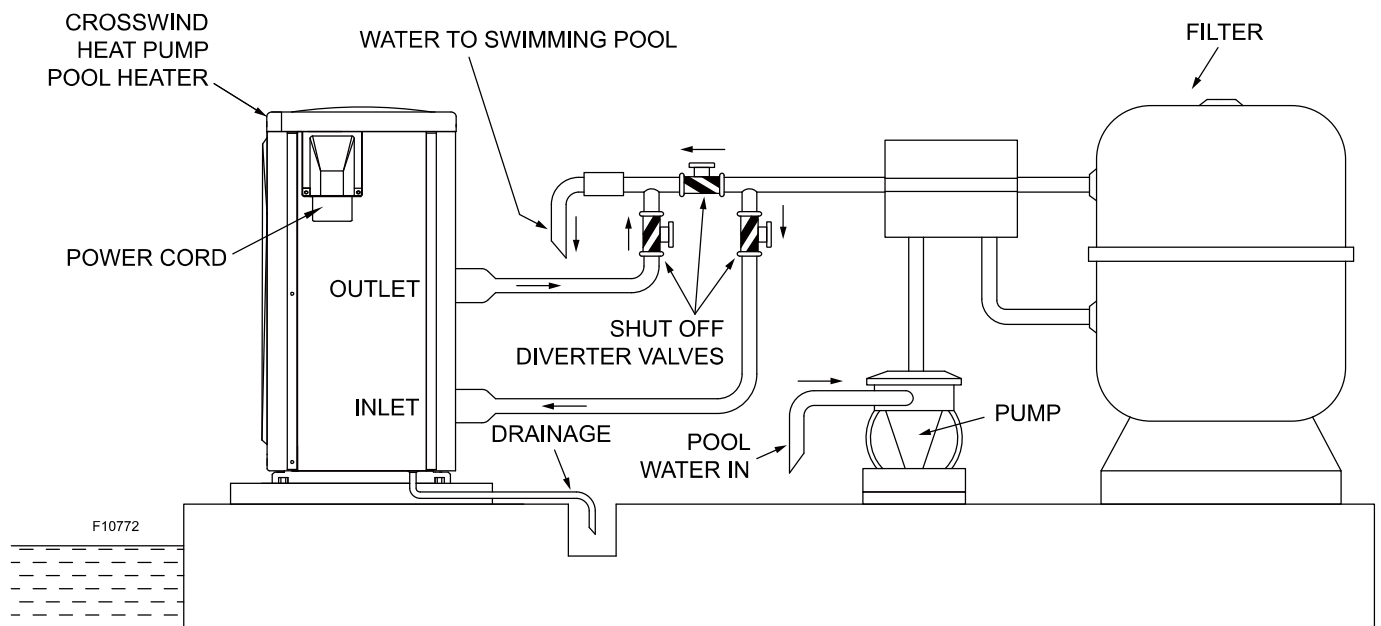

Figure 9. Piping Layout
See plumbing diagrams starting with **Figure 9**.
1. Connect the heater in the return water line between the filter and the pool/spa. See the piping layout shown in **Figure 9**.
Install any automatic chemical feeders downstream of the heater. See the piping layout shown in **Figure 9**.